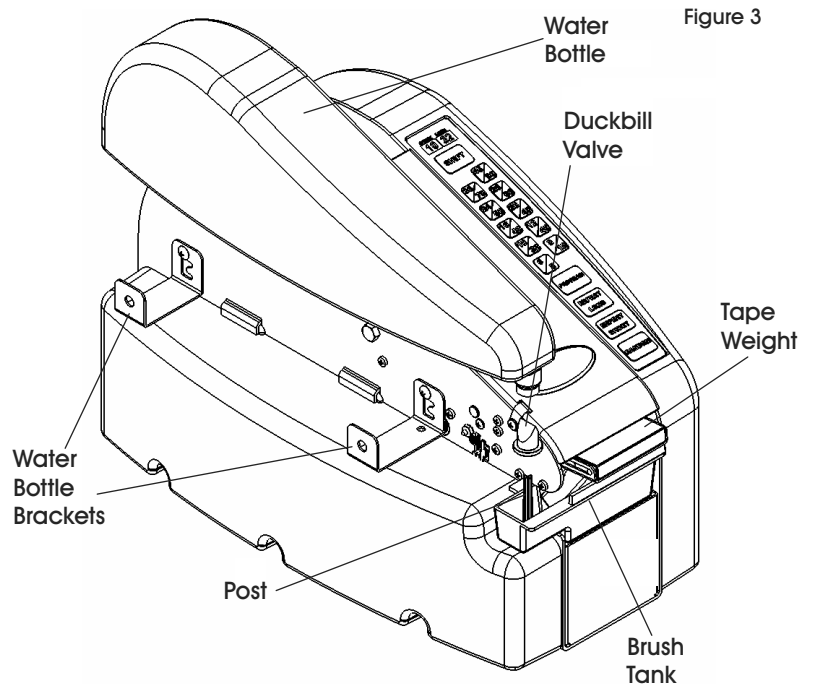

Figure 3
1. Remove the water bottle from the dispenser. (See Figure 3)
2. Remove the duckbill valve from the water bottle. Fill the water bottle with water. (See Figure 3)